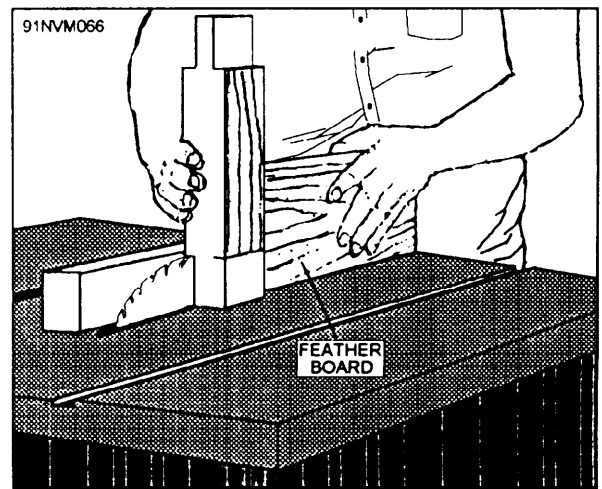

Figure 3-40.—Using a feather board and push board to steady stock when cutting a tenon cheek.
5. Set the fence the width of the shoulder away from the saw. Then make the cheek cuts, as shown in figure 3-40. To steady the stock against the fence, use a feather board like the one shown clamped to the table. To maintain the stock upright, use a push board, like the one shown in figure 3-40.